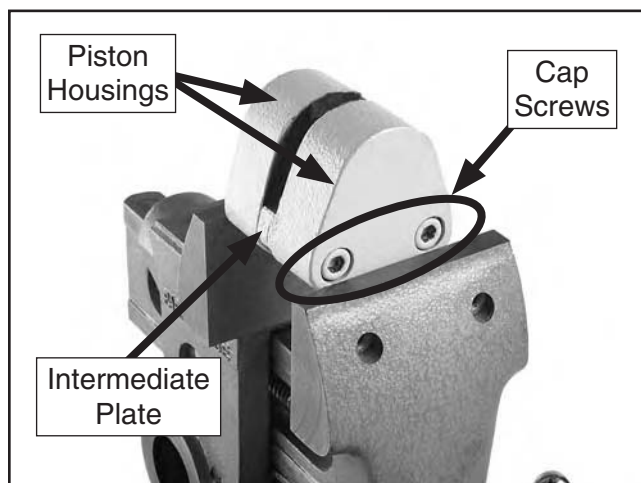

Figure 133. Caliper secured in a vise for disassembly.
6. Secure the caliper in the vise as shown in **Figure 133**, then remove the two cap screws that secure the caliper housings.